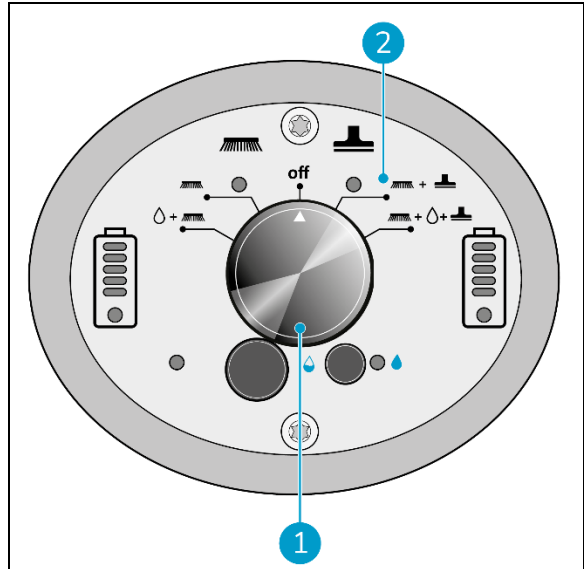

Figure 27
1. Use the i-mop XXL Pro main switch (Figure 27, pos 1) and choose MODE 3 Brush + Dry vacuum (Figure 27, pos 2).